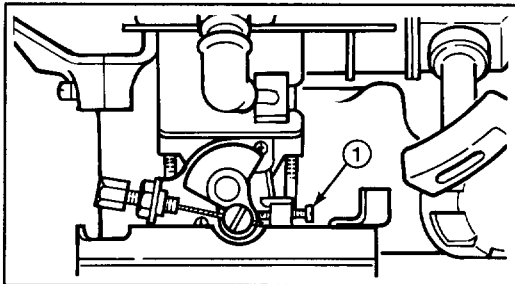

Figure 12
ADJUSTING CARBURETOR (Fig. 12)
1. Start the engine and let it warm up for approximately 3–5 minutes. Do not adjust carburetor when engine is cold. Be sure to perform carburetor adjustment while at a temperature that will be the average outdoor temperature at which the trimmer will be used. Allow the engine to idle. If necessary, readjust the idle speed to keep the engine from stalling (2600–3200 RPM). Turning idle speed screw clockwise increases idle speed, counterclockwise decreases idle speed (Fig. 12).